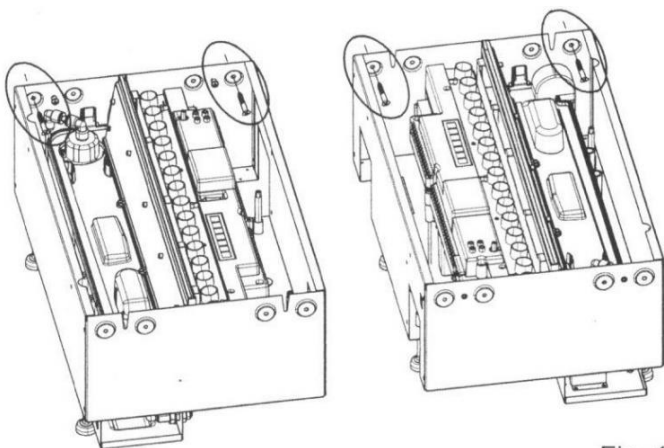

Fig. 11
4. With the product in its final position, remove the top plate and screw the product to the surround using the four fixing holes shown in Fig. 11.